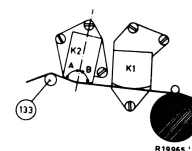

Fig. 14
- . Push slide 57 by hand so far forward that the angles which the tape makes with the axial line of the erasing head are equally great on both sides (fig. 14).